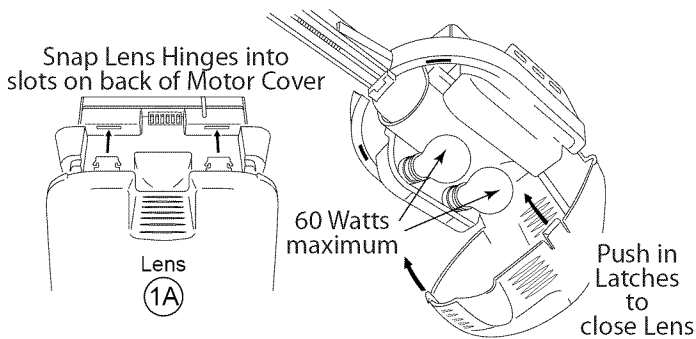

Figure 41 Install Lens Cover and Light Bulbs
- A** Install two 60 Watt light bulbs (not included) into Light Sockets (**Figure 41**):